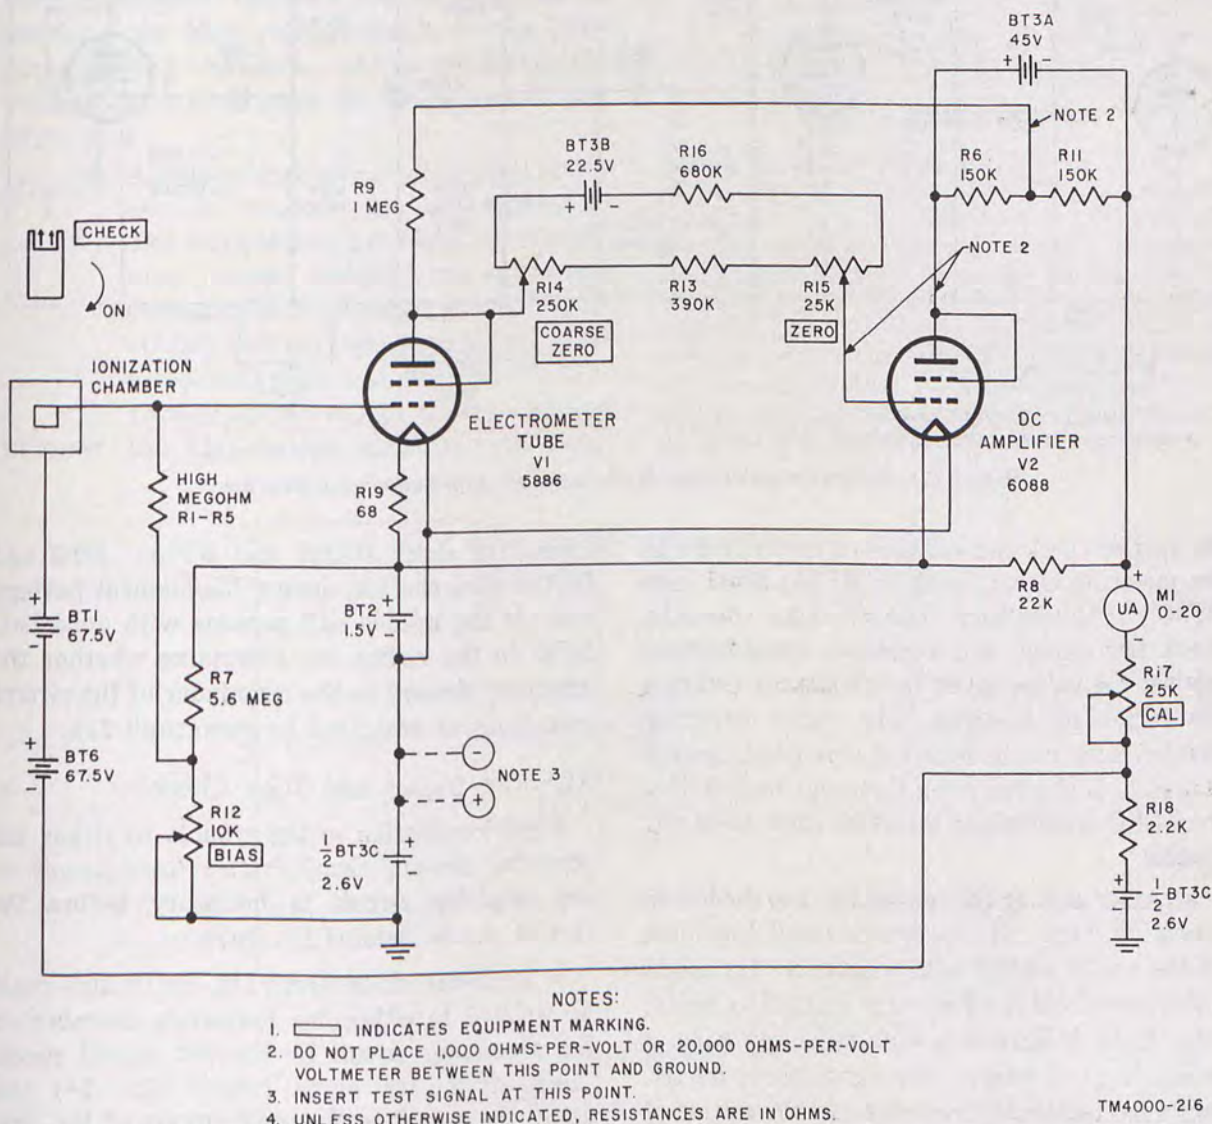
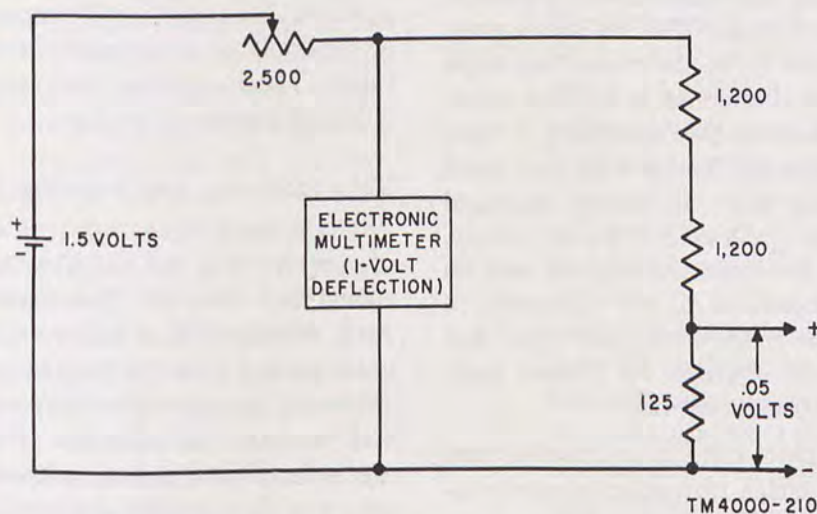

Figure 112. Radiac set with ionization chamber, simplified schematic diagram.
Figure 114. Test signal circuit diagram.
A possible approach in troubleshooting small radiac sets is covered in this section. Two simplified circuit diagrams (figs. 112 and 113) are
b. Most radiac sets include a circuit for checking the filament battery (BT 2, fig. 112 and BT
a. In many radiac tests, the first step before operation is the zeroing procedure. In the circuit shown in figure 112 resistor R15 must be adjusted. If the COARSE ZERO and ZERO adjustments (R14 and R15) do not permit zeroing
b. After zeroing the set, switch it to the lowest operating range. The background radiation noise on the earth usually will produce a very slight meter movement in all but very insensitive radiac sets. If no indication is obtained, even when a radioactive test sample is brought close to the set, check the remaining batteries. In the circuit of figure 112 check BT1 and BT6. In the circuit of
a. In the circuit of figure 112, the trouble could be isolated to either the ionization chamber or the remaining circuit by the test signal check. Construct the test signal circuit (fig. 114) and apply the signal to the grid circuit of the first stage. The point between batteries BT2 and
Note. If no test signal voltage is listed in the equipment manual, apply the test signal circuit (fig. 114) to a radiac set known to be operating properly and vary the 2,500-ohm potentiometer until the meter on the radiac set indicates full-scale deflection. Without changing the setting of the potentiometer, apply this test signal to the radiac set under repair.